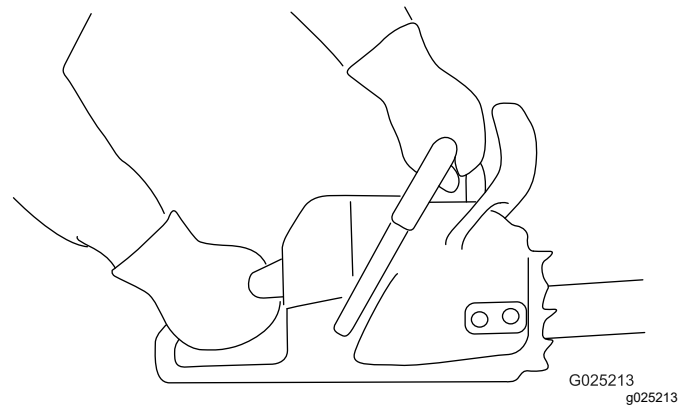

Figure 13
1. Grip the chain saw with 2 hands, with your left hand on the front handle and your right hand on the rear handle as shown in Figure 13.
1. Grip the chain saw as shown in Figure 13.
- Grip the chain saw as shown in (Figure 13).